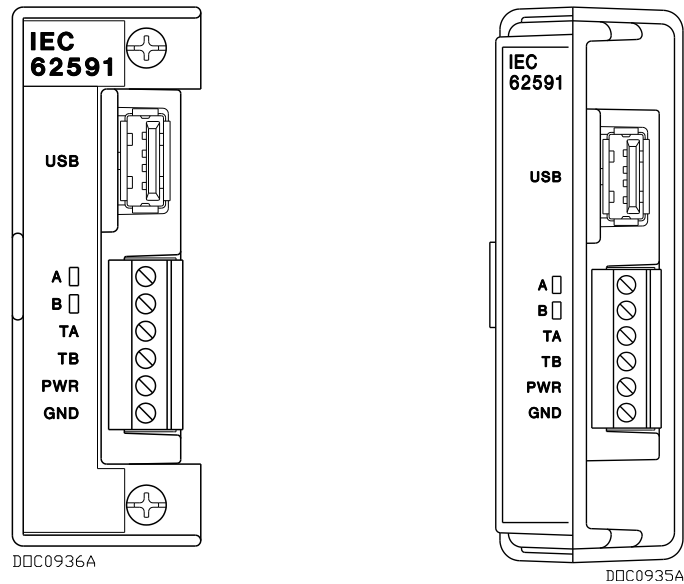

Figure 1-2. IEC 62591 Wireless Interface Module
Functionally, there is no difference between the module for the FB107 and the module for the ROC800. They use the same printed circuit board (PCB) but have a slightly different plastic casing. See *Figure 1-2*; the ROC800 module is on the left and the FB107 module is on the right.
4. Insert the module through the module slot in the front of the ROC800 or EXP housing. Make sure that the label on the front of the module faces right side up (see *Figure 1-2*). Gently slide the module in place until it contacts properly with the connectors on the backplane.
4. Insert the module in the slot on the base unit or expansion rack, making sure that the module faces the correct direction (see *Figure 1-2*). Gently slide the module into place until it contacts properly with the connectors on the backplane.